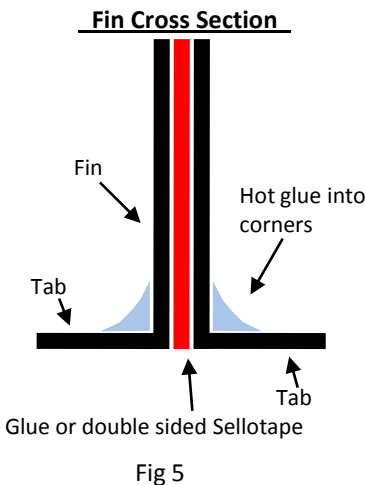
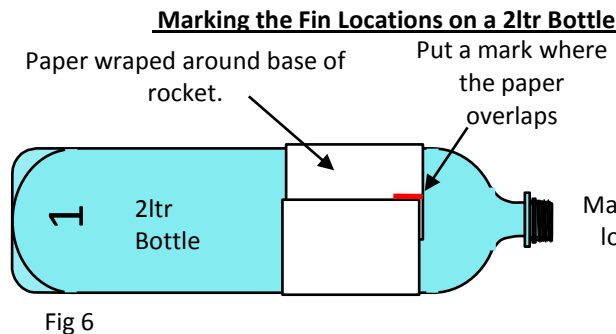
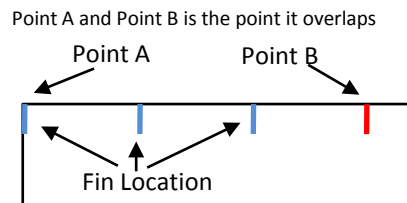

Fig 5
Fig 6
Fig 7
To make the fin water-proof use package tape on both sides, folding over the edges. The fins are then hot glue gunned in the corners of the tab and fin on each side (fig 5), this gives the fin more support.
Use a sheet of paper to help mark the correct location for the fins. (fig 6). Wrap the paper around the rocket base and mark where the paper overlaps (Fig 6), then divide the paper (Fig 7) into three (or four if making four fins for your rocket). Put the paper back round the base of the rocket and mark where the fins are to go.
- Cut from one corner to the opposite side (Fig 5), now open out and you should have a two circles (Fig 6).